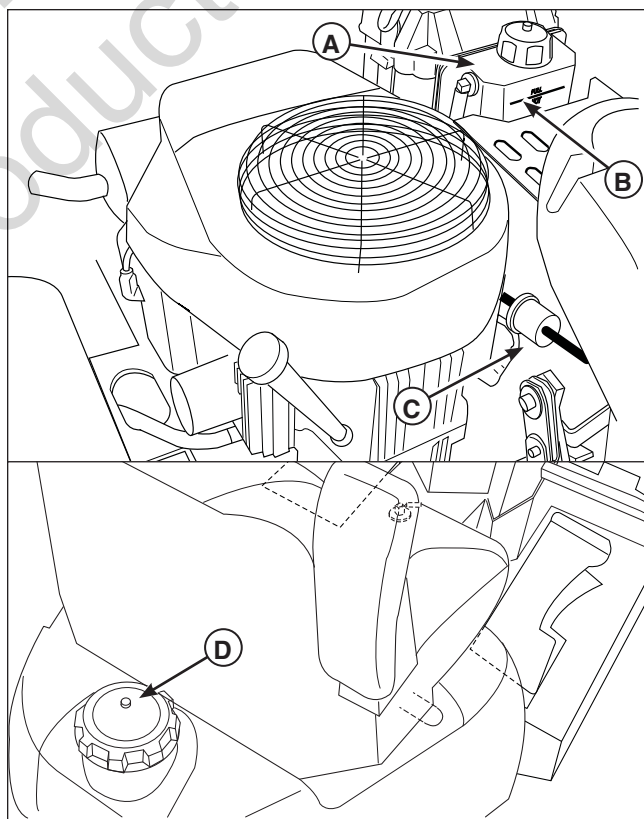

Figure 7. Fuel Tank, Oil Reservoir & Fuel Filter
1. Remove the fuel cap (D, Figure 7).
The fuel filter (C, Figure 7) is located in the fuel line between fuel shut off valve and carburetor, near the fuel pump. If filter is dirty or clogged, replace as follows:
1. Observe the oil reservoir (A, Figure 7). The oil level should be at the "FULL" line (C).